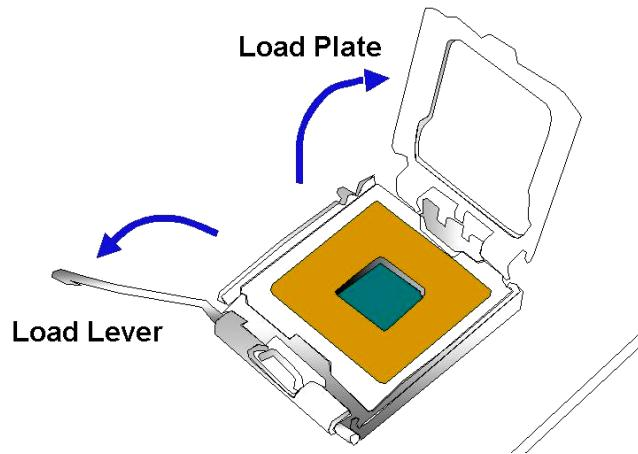

Figure 5-3: Open the CPU Socket Load Plate
Step 2: **Open the socket.** Disengage the load lever by pressing the lever down and slightly outward to clear the retention tab. Rotate the load lever to a fully open position. Then rotate the load plate towards the opposite direction. See Figure 5-3.